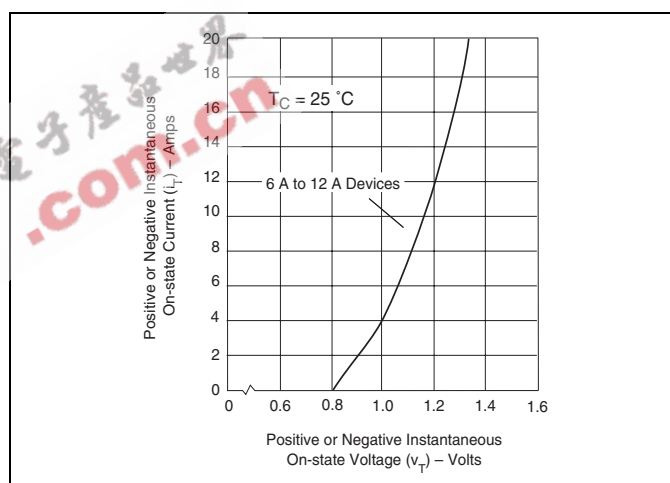
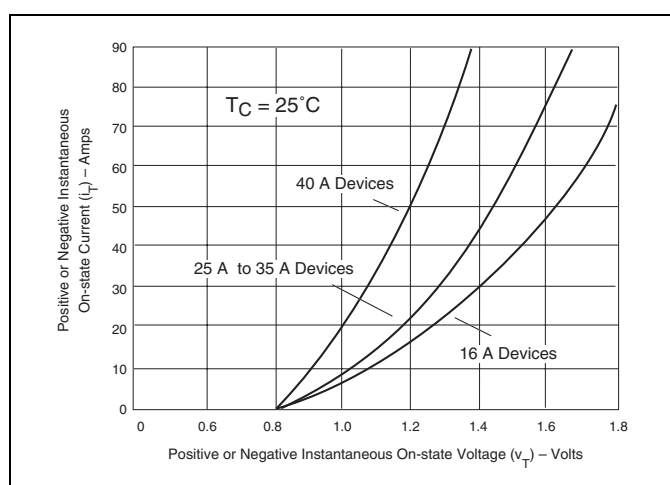

Figure E4.5 On-state Current versus On-state Voltage (Typical) (6 A to 12 A)
Figure E4.6 On-state Current versus On-state Voltage (Typical) (16 A to 40 A)
- See Figure E4.5 and Figure E4.6 for I_T and V_T .